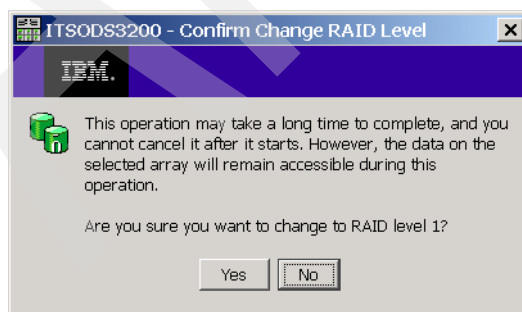

Figure 11-25 RAID level migration - Confirm
5. The confirmation window (Figure 11-25) appears. Read the important message and click **Yes** to continue.